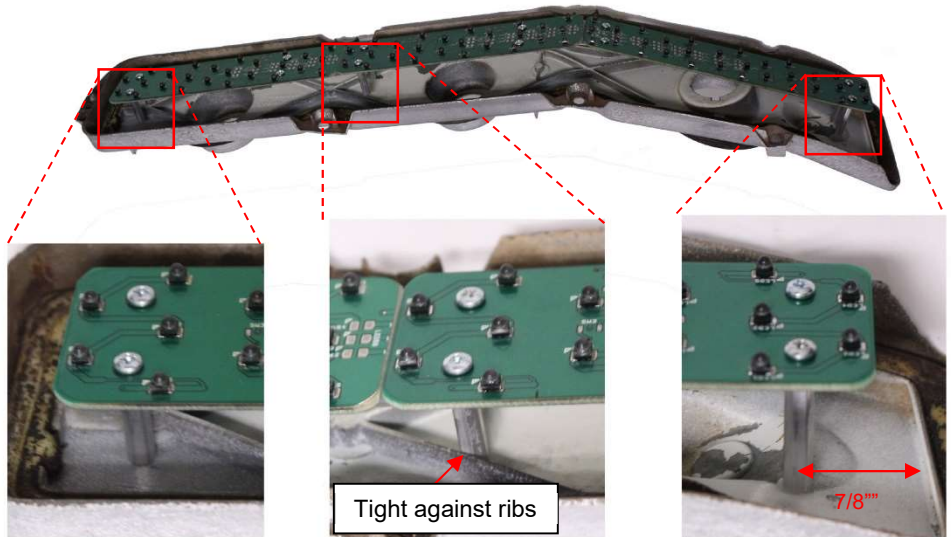

Figure 1
- 3.2. For each taillight housing, position an LED assembly onto the taillight housing so the aluminum hex standoffs are in the positions indicated in Figure 1. The critical alignment is with the center standoffs. These center standoffs must be justified firmly against the inside of the interior ribs within the taillight housing. Also, the outboard standoffs must be at least 7/8 inches from the center of the standoff to the outer gasket rib. If these outboard standoffs are too far outboard, then the outboard LED panel will interfere with the lens when the lens is replaced. With all standoffs in proper position, mark the location of each standoff with a marking pen. Drill the center position of each standoff with an 1/8" hole.